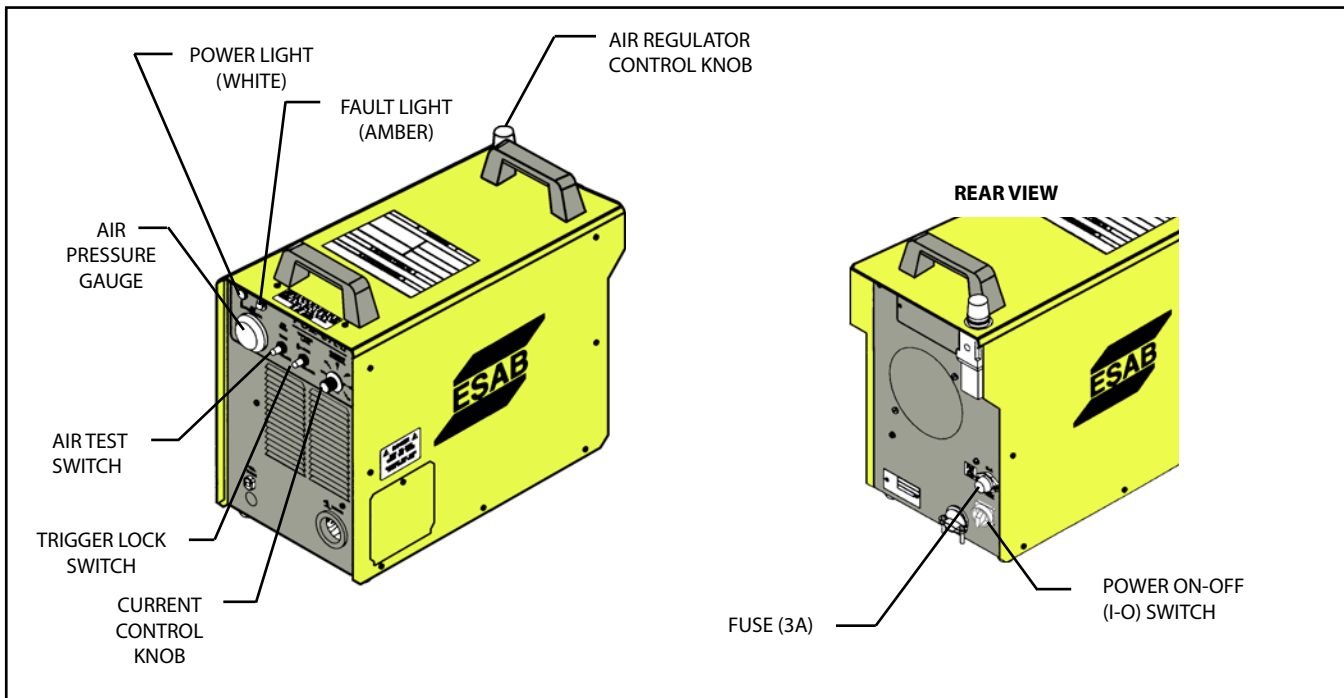

Figure 4-1. PCM-875 Controls
4.2 PCM-875 CONTROLS (FIGURE 4-1)